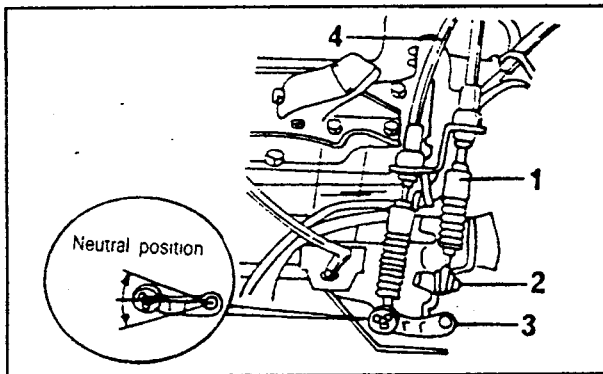

Fig. 7.8. — Connection of the gear select and gearchange cables on the transmission.
Gear Selector Cable: With the cable attached, move the gearchange lever (3) in Fig. 7.8 at the transmission end of the cable to the "neutral" position. This will set the gear select lever in the "neutral" position.
Gearchange Cable: Place the gear selector lever (2) in Fig. 7.8 into the neutral position and move the lever (3) downwards to bring it into the 4th speed position. If the lever is